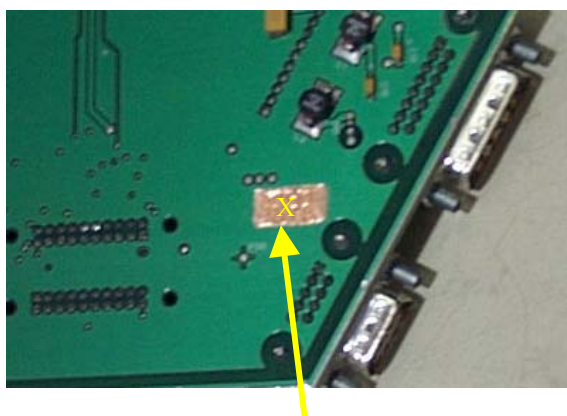

Figure 4. Cut An X
10. Refer to Figure 4. Locate the hole through the tape and, using a sharp Exacto knife, carefully cut an X into the tape over the screw hole.